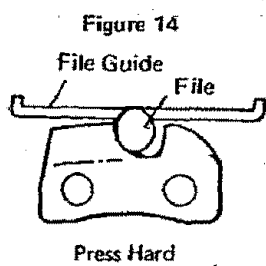

Figure 14
6. Hold the file level, perpendicular to the bar, Figure 14.